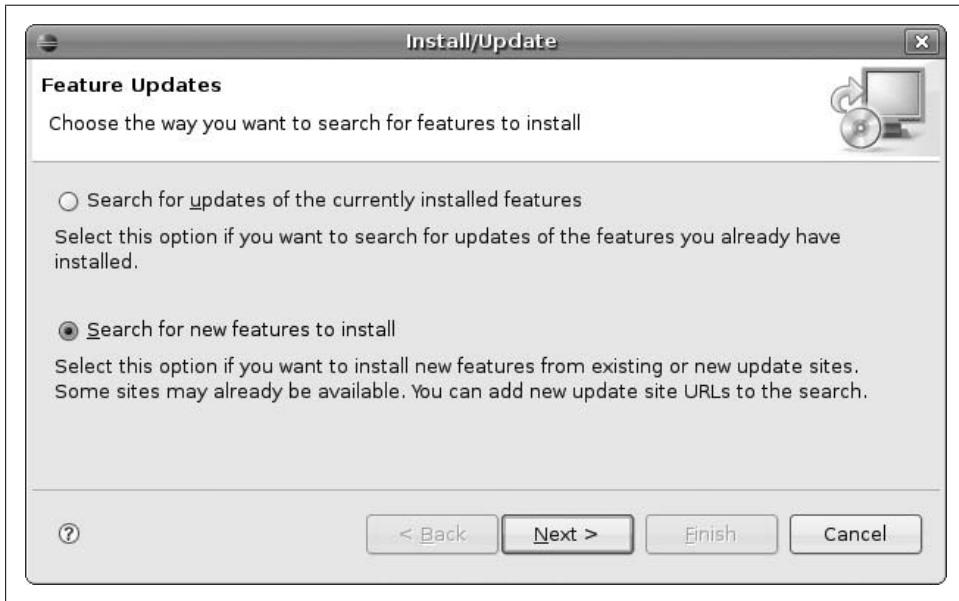

Figure 4-8. Eclipse Install/Update dialog
2. In the Install/Update dialog that appears, choose "Search for new features to install" and click Next (Figure 4-8).